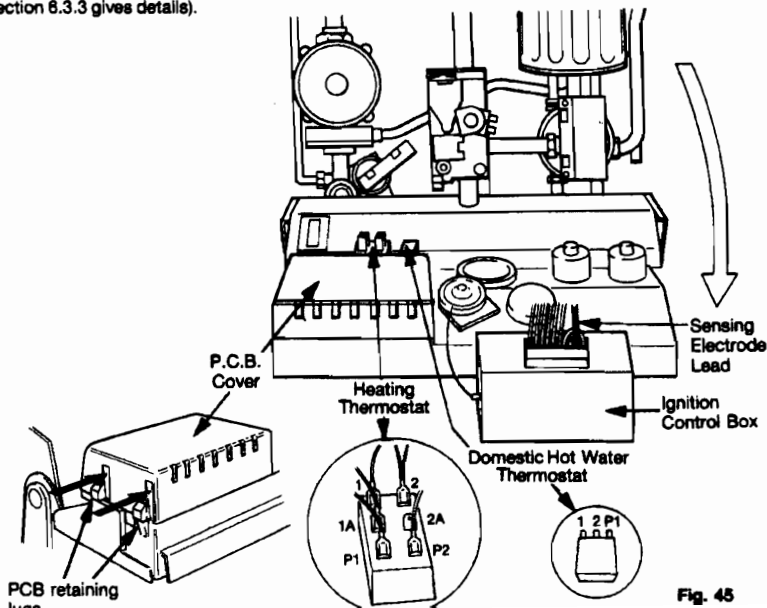

Fig. 45
Refer to figs. 45 & 46
- 8.22.28** Refer to figs 45 & 46 to ensure correct location of thermostat and push-on wiring tabs.
- 8.22.36** Refer to fig. 45 to ensure correct location of thermostat and push on wiring tabs. Orange wire to terminal P1 Red wire to terminal 2
Refer to fig. 45
- Refer to fig. 45
- 8.22.43** Press in the sides of the printed circuit board cover (fig. 45) to release retaining clips and lift cover off.
Remove wire on No 2 terminal of Hot water stat replace on No 1 terminal (see fig. 45).